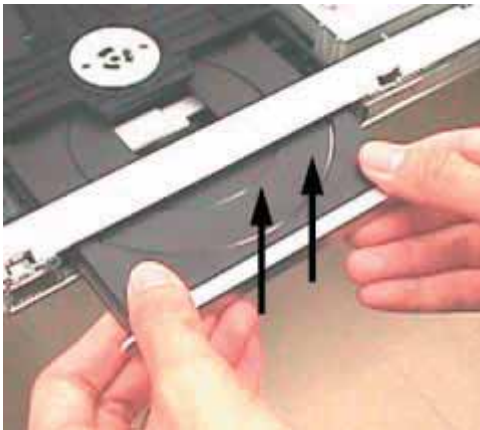

Figure 3-2
- 2) Slide out the tray and remove the Cover Tray (pos 110) as shown in Figure 3-2.